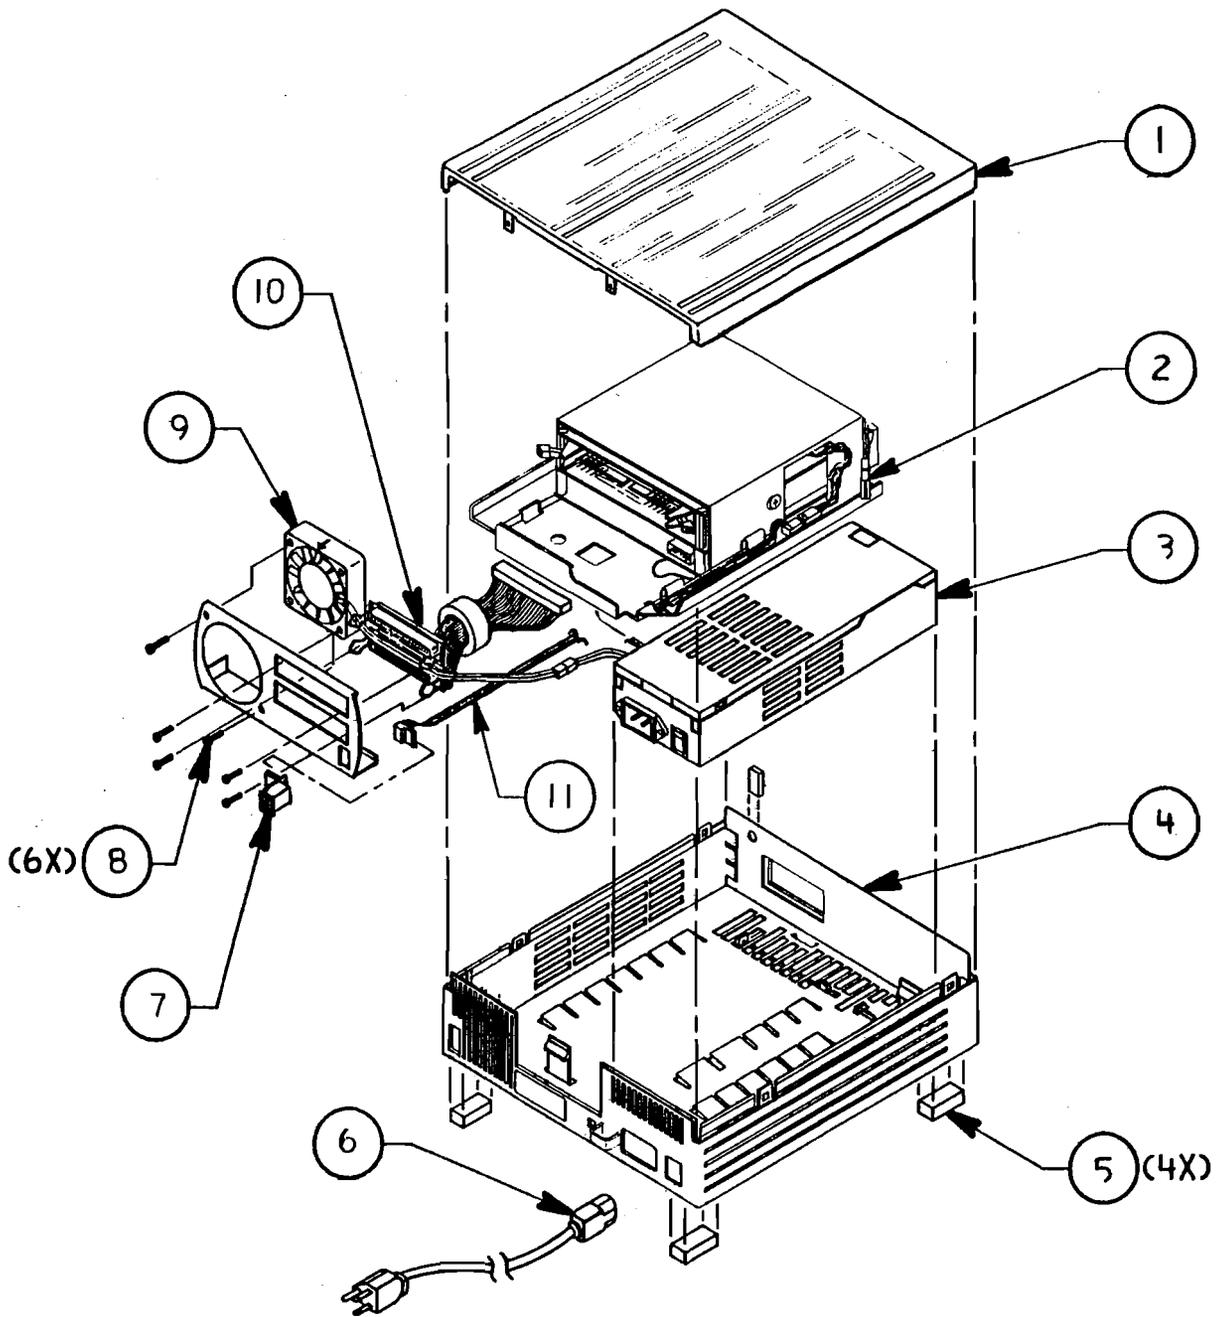

FIGURE 1
□ **TAPE BACKUP 40SC - COMPLETE ASSEMBLY (Figure 1)**